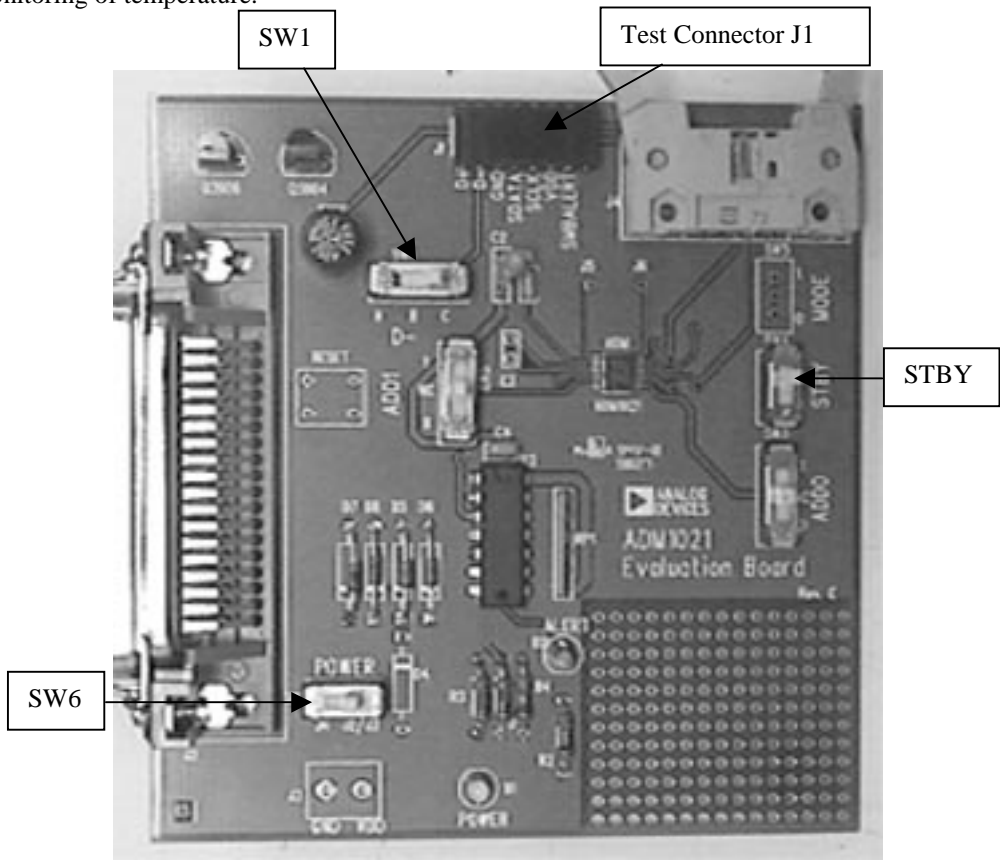

Figure 5 Eval-1021 Test Board
- 11) Verify that the switch # 1 SW1 (See Figure 5) in the ADM1021 is in the C position for remote monitoring of temperature.